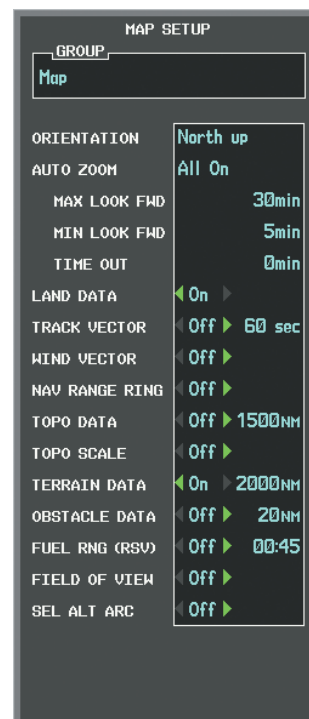

Figure 6-123 Navigation Map Page Setup Menu, Map Group
- 5) Turn the large **FMS** Knob or press the **ENT** Key to scroll through product selections (Figure 6-123).